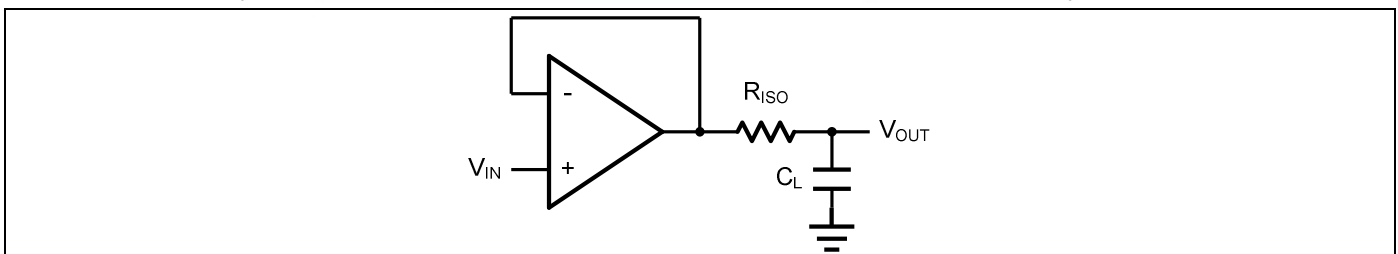
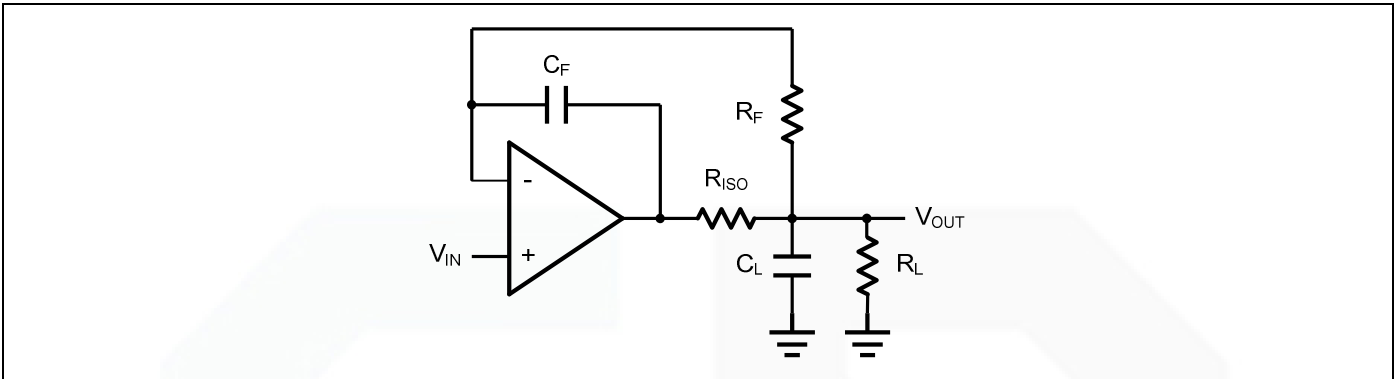

Figure 2. Indirectly Driving a Capacitive Load Using Isolation Resistor
Figure 3. Indirectly Driving a Capacitive Load with DC Accuracy
The BDM8551 family is optimized for bandwidth and speed, not for driving capacitive loads. Output capacitance will create a pole in the amplifier's feedback path, leading to excessive peaking and potential oscillation. If dealing with load capacitance is a requirement of the application, the two strategies to consider are (1) using a small resistor in series with the amplifier's output and the load capacitance and (2) reducing the bandwidth of the amplifier's feedback loop by increasing the overall noise gain. Figure 2. shows a unity gain follower using the series resistor strategy. The resistor isolates the output from the capacitance and, more importantly, creates a zero in the feedback path that compensates for the pole created by the output capacitance.
The circuit in Figure 3 is an improvement to the one in Figure 2. R_F provides the DC accuracy by feed-forward the V_{IN} to R_L . C_F and R_{ISO} serve to counteract the loss of phase margin by feeding the high frequency component of the output signal back to the amplifier's inverting input, thereby preserving the phase margin in the overall feedback loop. Capacitive drive can be increased by increasing the value of C_F . This in turn will slow down the pulse response.